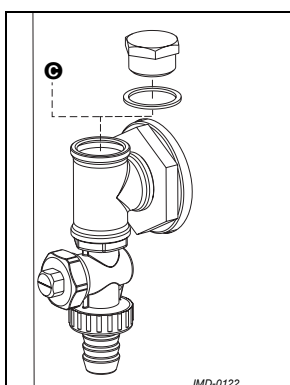

Figure 3.3 Drain valve
1. Fit the standard drain valve ❼ supplied.
2. Refer to paragraph 3.6.5 if a circulation pipe is to be fitted. Otherwise, fit the sealing nut and gasket supplied with the drain valve. See Figure 3.3.
See ⑥ in Figure 3.2. and Figure 3.3.
1. Fit a circulation pump ⑥ of the correct capacity for the length and resistance of the circulation system.
2. Fit a non-return valve ⑤ behind the circulation pump to guarantee the direction of circulation.
3. Fit two stop valves for servicing ④.
4. Connect the circulation pipe to the T-piece on the drain valve ⑦. See Figure 3.3.